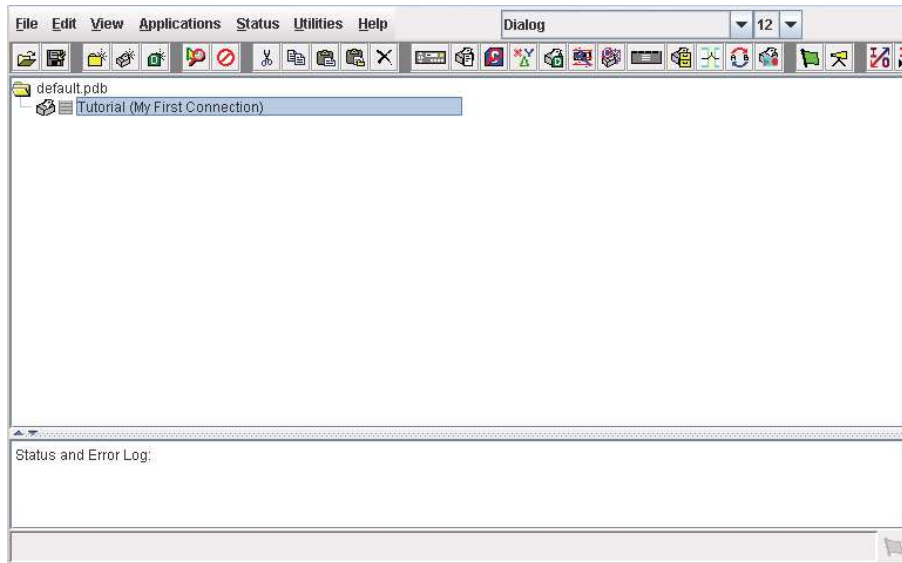

Figure 7 Printer Database Main Window
12. Click **OK**. The Printer Properties dialog box closes and you return to the printer database main window. See Figure 7. Your printer is now set up in the PNE Auto ID database.
- a. **Tutorial (My First Connection)** should be highlighted in blue, as shown in Figure 7. If it is not highlighted, click it to select it.